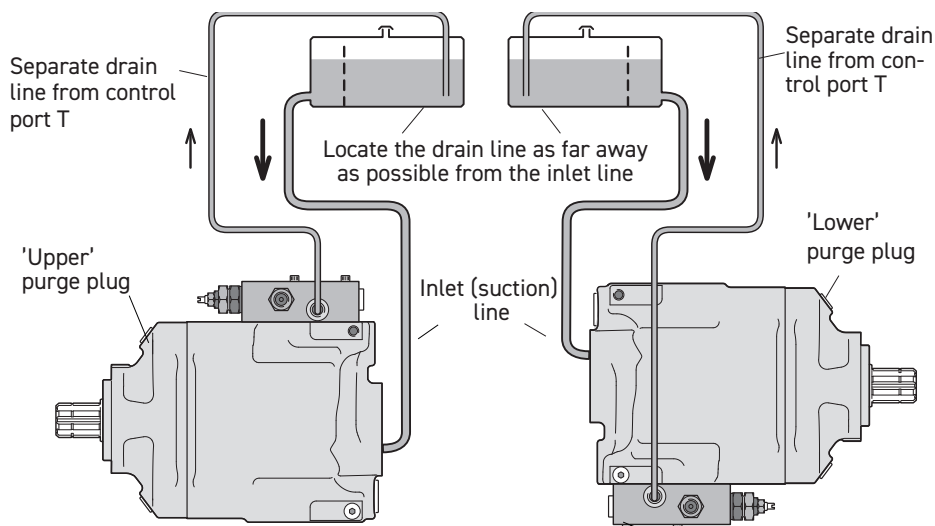

Fig. 10. Purging the VP1-095/-110/-130 (right hand pumps shown)
4. The pump should be installed below the lowest oil level in the reservoir (fig. 10, pg. 8);
5. A separate drain line must be installed between the control drain port T and the reservoir (refer to fig. 10, pg. 8); connect the drain line directly to the oil cooler (if the hydraulic system is so equipped).
- The pump must be filled with fluid and then purged before start-up (fig. 10). Please note, that purging should only be performed when the pump is connected to the reservoir and the entire system is filled with hydraulic fluid.
- As previously pointed out, a separate drain line is required between control port T and the reservoir (fig. 10).